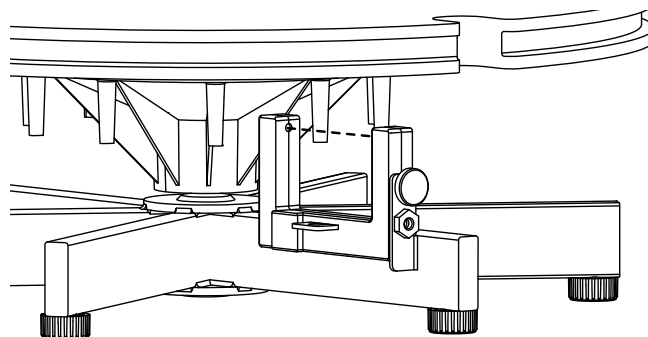

Figure 1
- The rotating platform has ten evenly-spaced "flags" (spokes) on its underside. These "flags" will interrupt the invisible infrared photogate beam as the chair turns, as shown in Figure 1.
1. Use the included thumbscrew to attach the photogate to the photogate support on one leg of the base, as shown in Figure 1.
5. Use a photogate mounted on the photogate support (see Figure 1) to provide quantitative measurements of position, velocity, and acceleration with the masses at both distances.
1. Attach a photogate head to the photogate support on the base of the rotating chair, as shown in Figure 1.